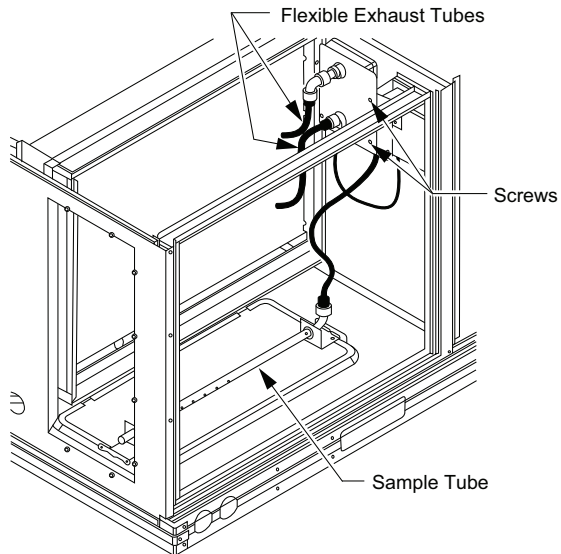

Fig. 46 — Return Air Smoke Detector Shipping Position
1. Unscrew the two screws holding the return air sensor detector plate. See Fig. 46. Save the screws.